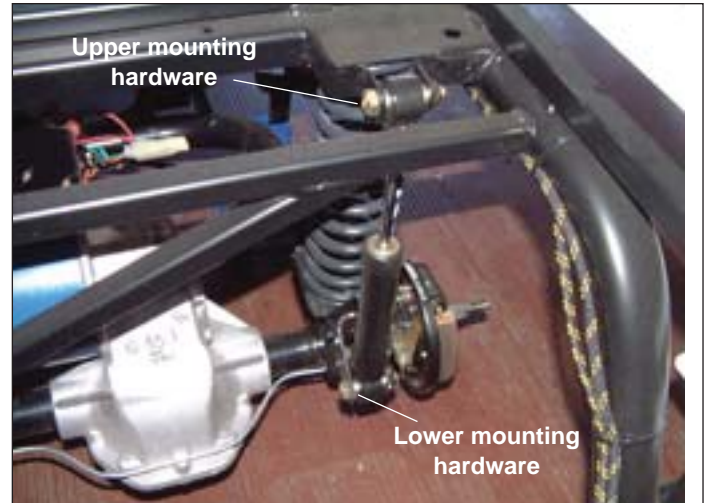

Figure 6-13. Rear Shock Absorber
2. Remove top and bottom mounting hardware securing shock absorber (Figure 6-13).
3. Remove top and bottom mounting hardware securing shock absorbers (Figure 6-13).